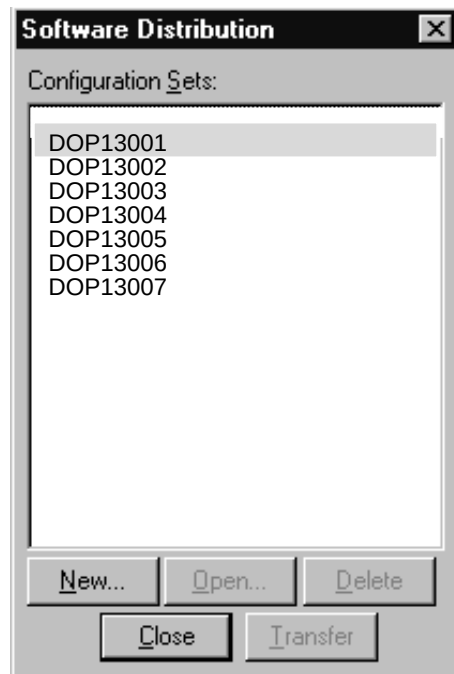

FIGURE 57. Software Distribution window
12. Back in the Software Distribution window, shown in Figure 57, select one of the configuration sets you have saved. Select only one set at the time, starting from the beginning.
It is critical that you transfer each patch separately, and in numerical order (for example, DOP13001 first, DOP13002 second, and so forth), as shown in Figure 57.